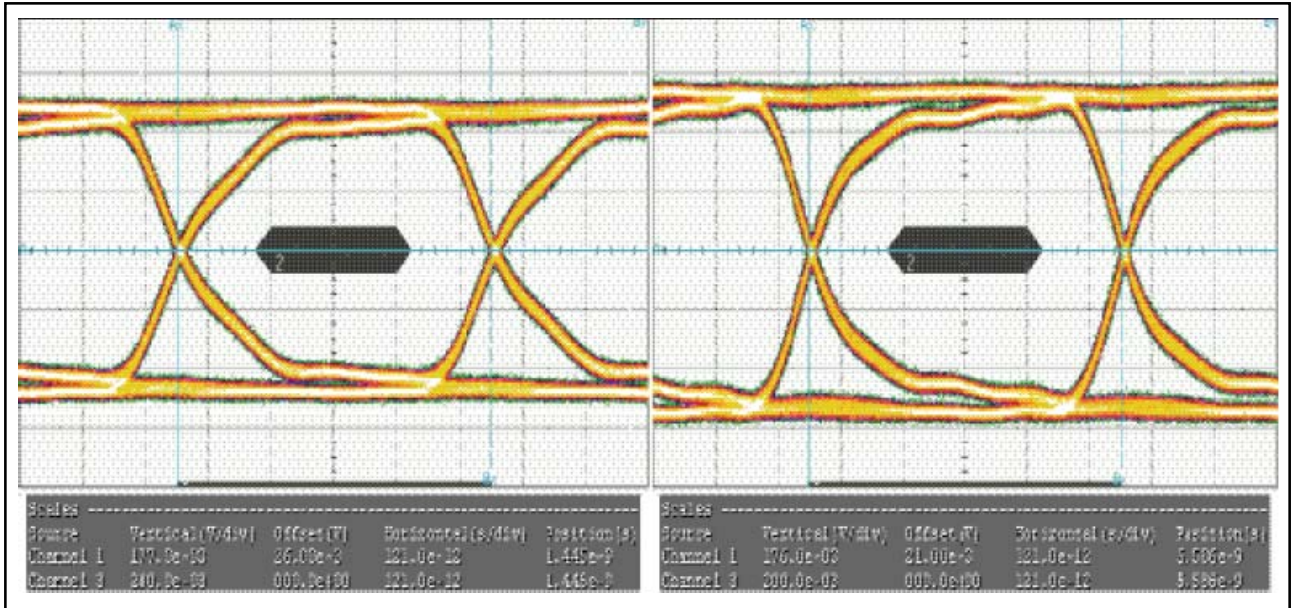

Figure 7: the Rx Eyes with PI3HDMI412FT-B (left) and Without PI3HDMI412FT-B (right – Hardwired to Bypass). Measured at the End of a 2-Meter Cable, at 1.6gbs
- Figure 7 compares the Rx eyes, measured at the end of a 2-meter cable at 1.6gbs speed, with and without PI3V512/PI3HDMI412FT-B (hardwired to bypass the pads).
The Rx eye comparison with and without PI3HDMI412FT-B (see left and right side respectively in Figure 7) demonstrates that the insertion loss caused by PI3HDMI412FT-B is minimal.